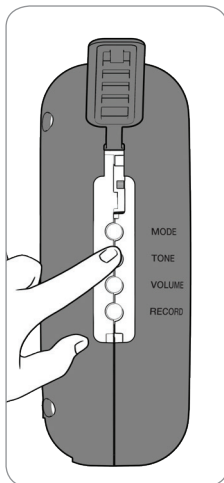

Fig. 6
3. Press TONE button on left side of fall monitor to scroll through the tone selections (Fig. 6).